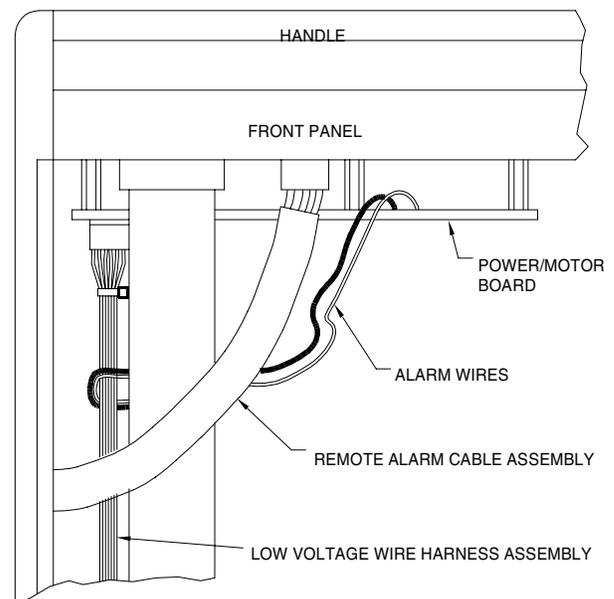

Figure 3.3
- For LP6+/LP10 with the newer surface-mount power/motor board, route the wires as shown in Figure 3.3